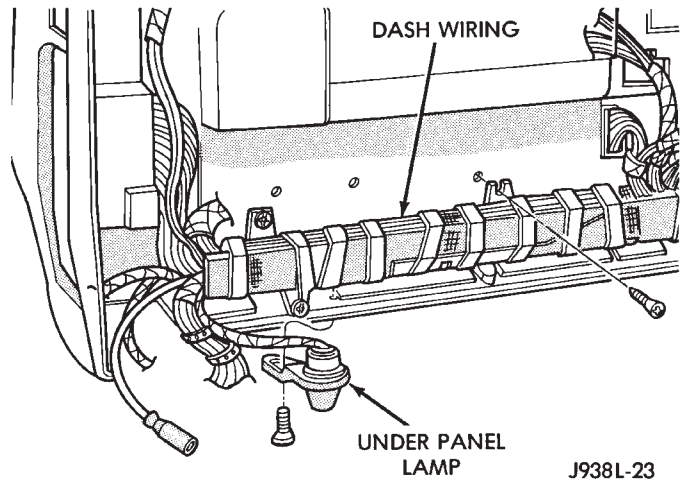

Fig. 5 Under Panel Lamp—Rear View
- (1) Remove 1 mounting screw (Fig. 5).
- (2) Disconnect wiring harness connector.